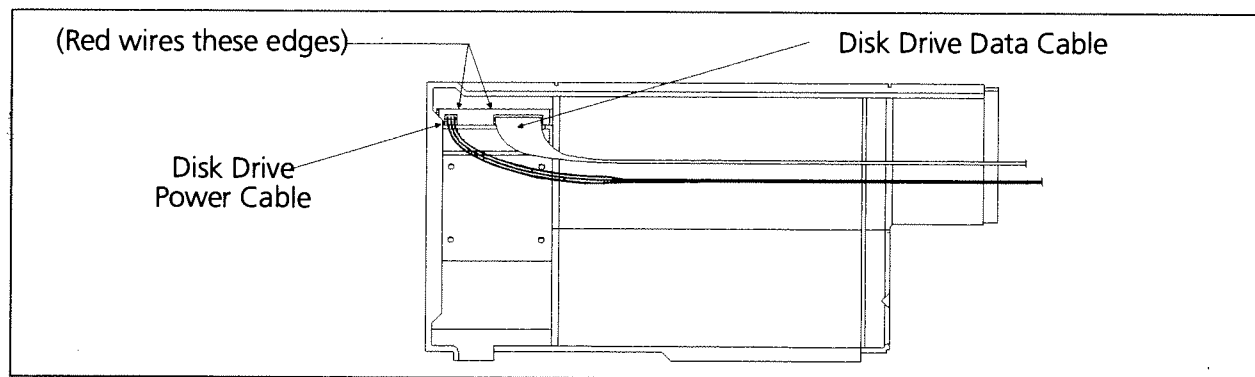

Figure A-7 New Cover w/Disk Drive Option Installed
12. While holding the cover and drive assembly steady with one hand, plug the data ribbon cable into its mating connector at the rear of the disk drive as shown in Figure A-7. Also, plug the disk drive power cable into its mating connector at the rear of the disk drive next to the data cable connector. When installed properly, the red wires (pins 1) of each cable will be adjacent to each other.